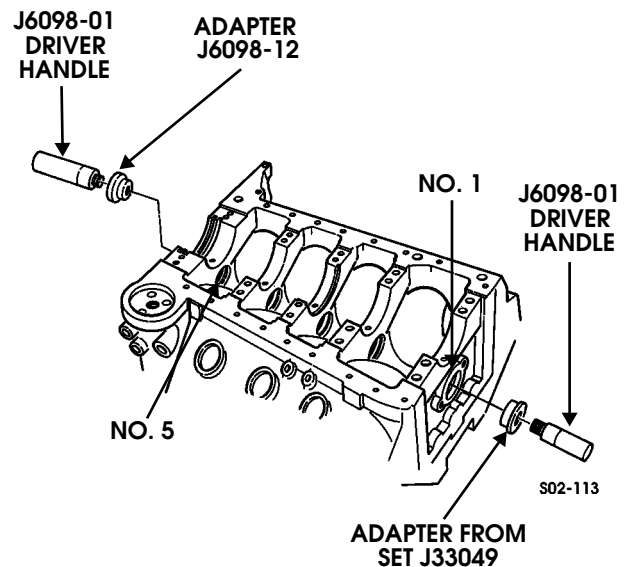

Figure 2-132: Removing Cam Bearings 1 and 5
4. Remove bearing No. 5 with driver handle from tool set J6098-01 and adapter J6098-12 (Figure 2-132).
5. Remove bearing No. 1 with driver handle and J33049 (Figure 2-132).